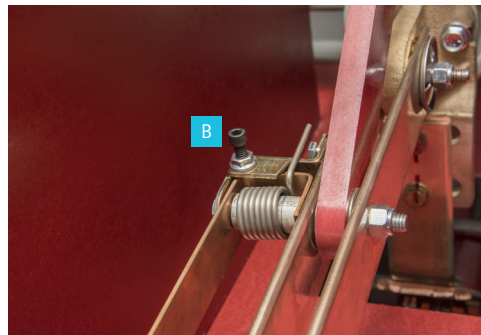

Figure 68: Arcing-blade adjusting screw
Note: *If any corrections to the quick-acting blade position are necessary (after all previous steps have been completed), they may be done by loosening the locknut on the arcing-blade adjusting screw (see Figure 68) and turning screw either in or out to obtain positioning of quick-acting blade. Re-tighten locknut.*
2. Connect a spring scale to the main blades approximately 1-1/2" below the jaw contact as shown in Figure 68: Use of spring scale for switch blade adjustment.